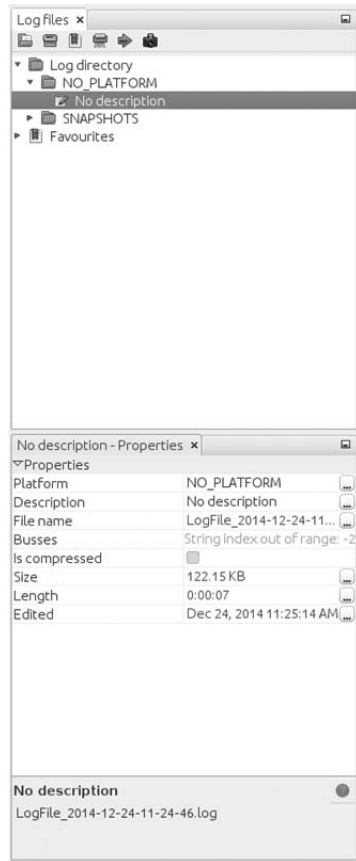

Figure 5-5: Right pane of Log files tab settings
To record CAN packets with Kayak, first click the Play button in the Log files tab **1**. Then drag one or more buses from the Projects pane to the Busses field of the LogOutput Window tab **2**. Press the Record and Stop buttons at the bottom of the LogOutput window **3** to start or stop recording. Once your packet capture is complete, the logging should show in the Log Directory drop-down menu (see Figure 5-5).
Other than some metadata (PLATFORM, DESCRIPTION, and DEVICE_ALIAS), the log is pretty much the same as the one captured by the can-utils package: ❶ is the timestamp, ❷ is your bus, and ❸ is your arbitration ID and data separated by a # symbol. To play back the capture, right-click the **Log Description** in the right panel, and open the recording (see Figure 5-5).